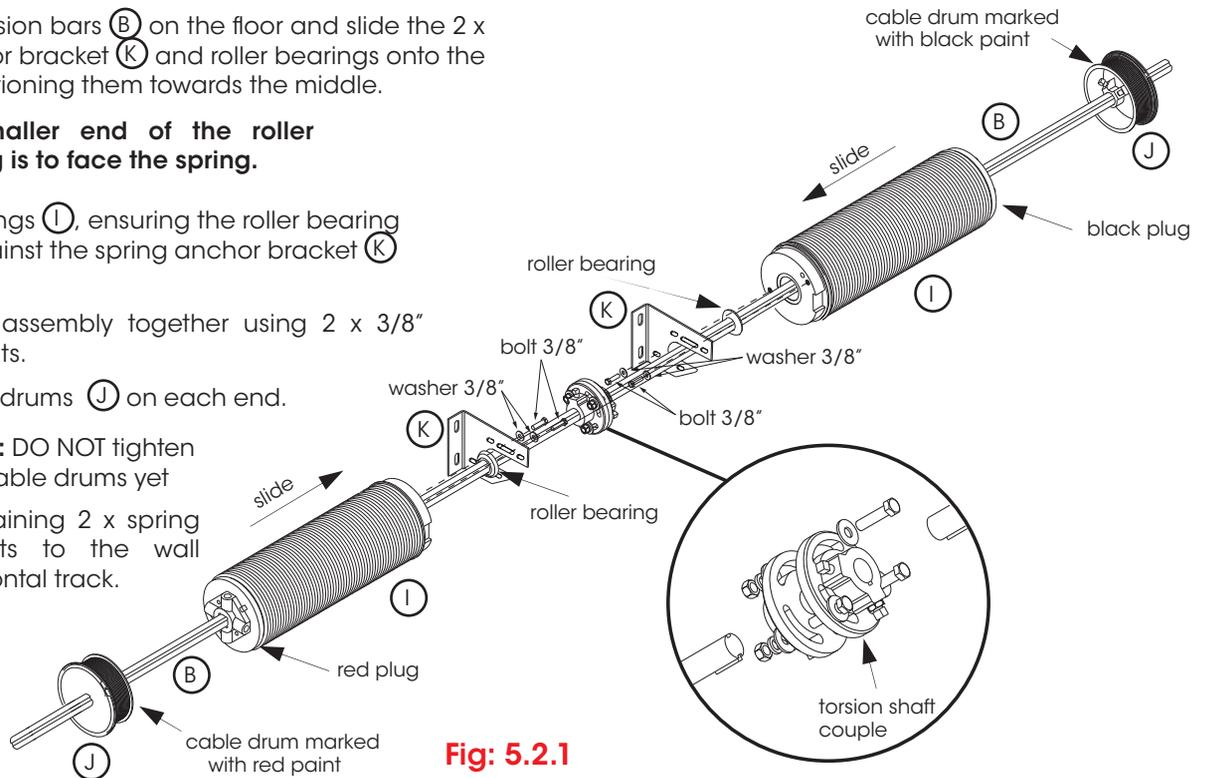

Fig. 5.2.1
The springs and drums for the counterbalance system are now colour coded to easily identify which side of the centre bracket the spring is placed. Fig. 5.2.1.
- i) Position the torsion shaft couple in the middle as shown in Fig 5.2.1, the axles should be flush with each couple allowing free rotation to occur.